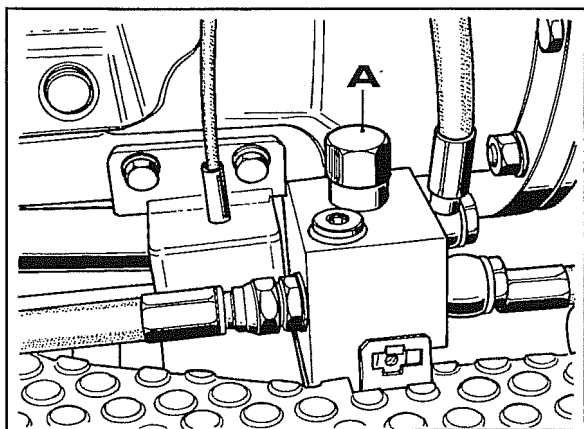

Fig. 1
1. Remove the centre tunnel cover and the side panel on the brake pedal side to access the prioritising valve **A** Fig.1.